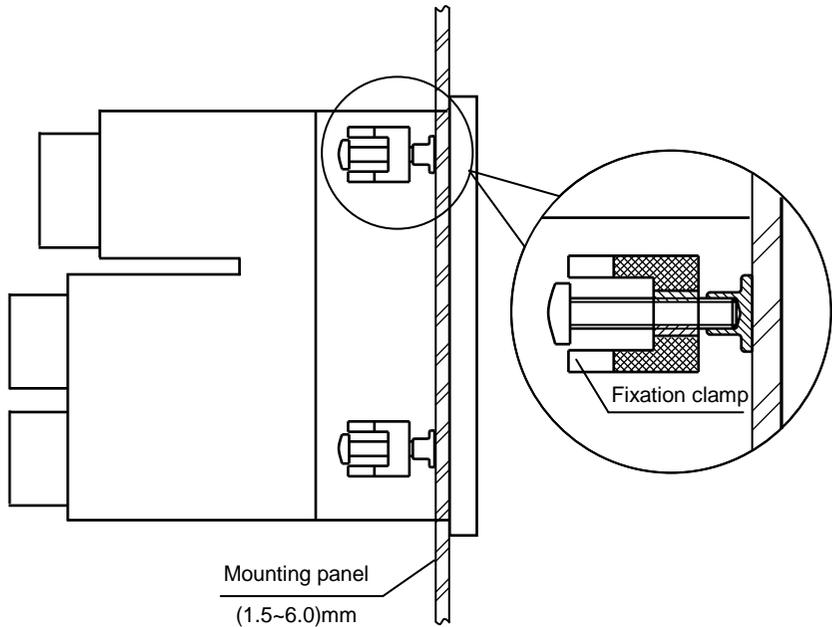

Figure 2-2 Diagram for installation
- Fit 4 fixation clamps into 4 fixed slots which are located beside the instrument. See Figure 2-2.